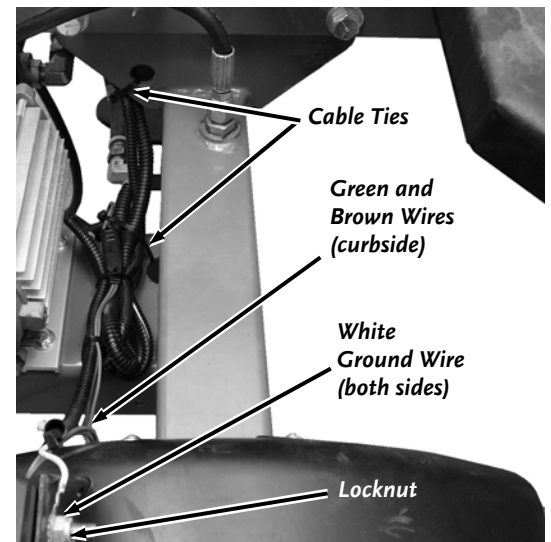

Figure 44
10. Plug in the Connector, place the Ground Wire onto the inner Stud and secure it with a 1/4-20 Locknut using a 7/16" Wrench (**Figure 44**).